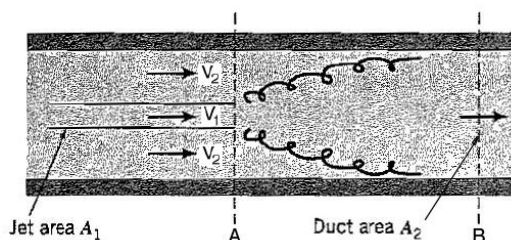

Figure P3.16
3.16 A jet of cross-sectional area A_1 steadily issues fluid of density ρ at a velocity V_1 , into a duct of area $A_2 = 5A_1$, as shown in Figure P3.16. The pressures at sections A and B are uniform across the duct. The surrounding flow in the duct has the same density ρ and a velocity $V_2 = \frac{1}{2}V_1$. The flow mixes thoroughly, and by section B the flow is approximately uniform across the duct area. Find the average velocity of flow at Section B in terms of V_1 ,